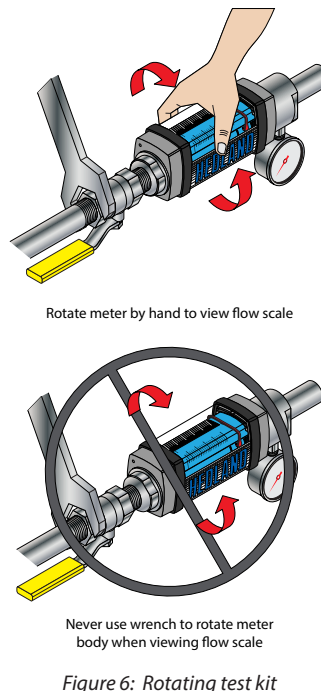

Figure 6: Rotating test kit
3. After installation, rotate the meter by hand to the view flow scale. See *Figure 6*.